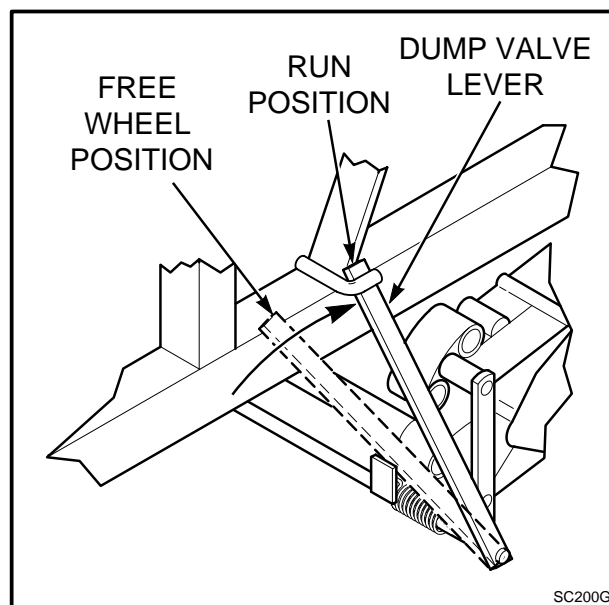

Figure 1
2. **Run Position:** Move the dump valve lever (on Left Hand side of mower) behind the hook on the frame to close hydraulic dump valves on the pump. (See Figure 1)
Free Wheel Position: Pull lever back and to the left, then push forward to relieve pressure. (See Figure 1)
11. Operate the machine forward and backward. Check that all the systems function correctly. If the machine does not move, make sure the hydraulic dump valve lever near the left wheel is engaged. (See Figure 1 page3)
To release the drive wheels, so the machine will roll without the engine running, pull the dump valve lever back from the hook on the frame, move it to the left, and push it forward to relieve the pump pressure. The lever is on the LH side of the machine. (See Figure 1 on page 3)